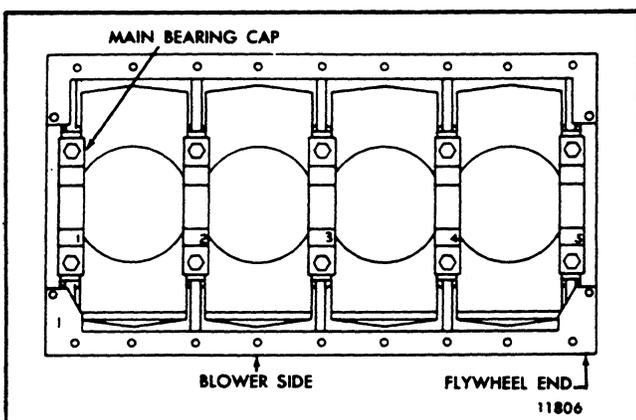

Fig. 19 - Cylinder Block Markings
NOTE: Bearing caps are numbered to correspond with their respective positions in the cylinder block. It is imperative that the bearing caps are reinstalled in their original positions to maintain the main bearing bore alignment. The number of the front main bearing cap is stamped on the face of the oil pan mounting flange of the cylinder block, adjacent to its permanent location in the engine as established at the time of manufacture. The No. 1 main bearing cap is always located at the end opposite the flywheel end of the cylinder block (Fig. 19), regardless of engine rotation or
2. If a new service replacement block is used, stamp the engine serial number and model number on the pad located in the upper right-hand corner on the blower side of the block. Also stamp the position numbers on the main bearing caps (Fig. 19) and the position of the No. 1 bearing on the oil pan mounting flange of the block.